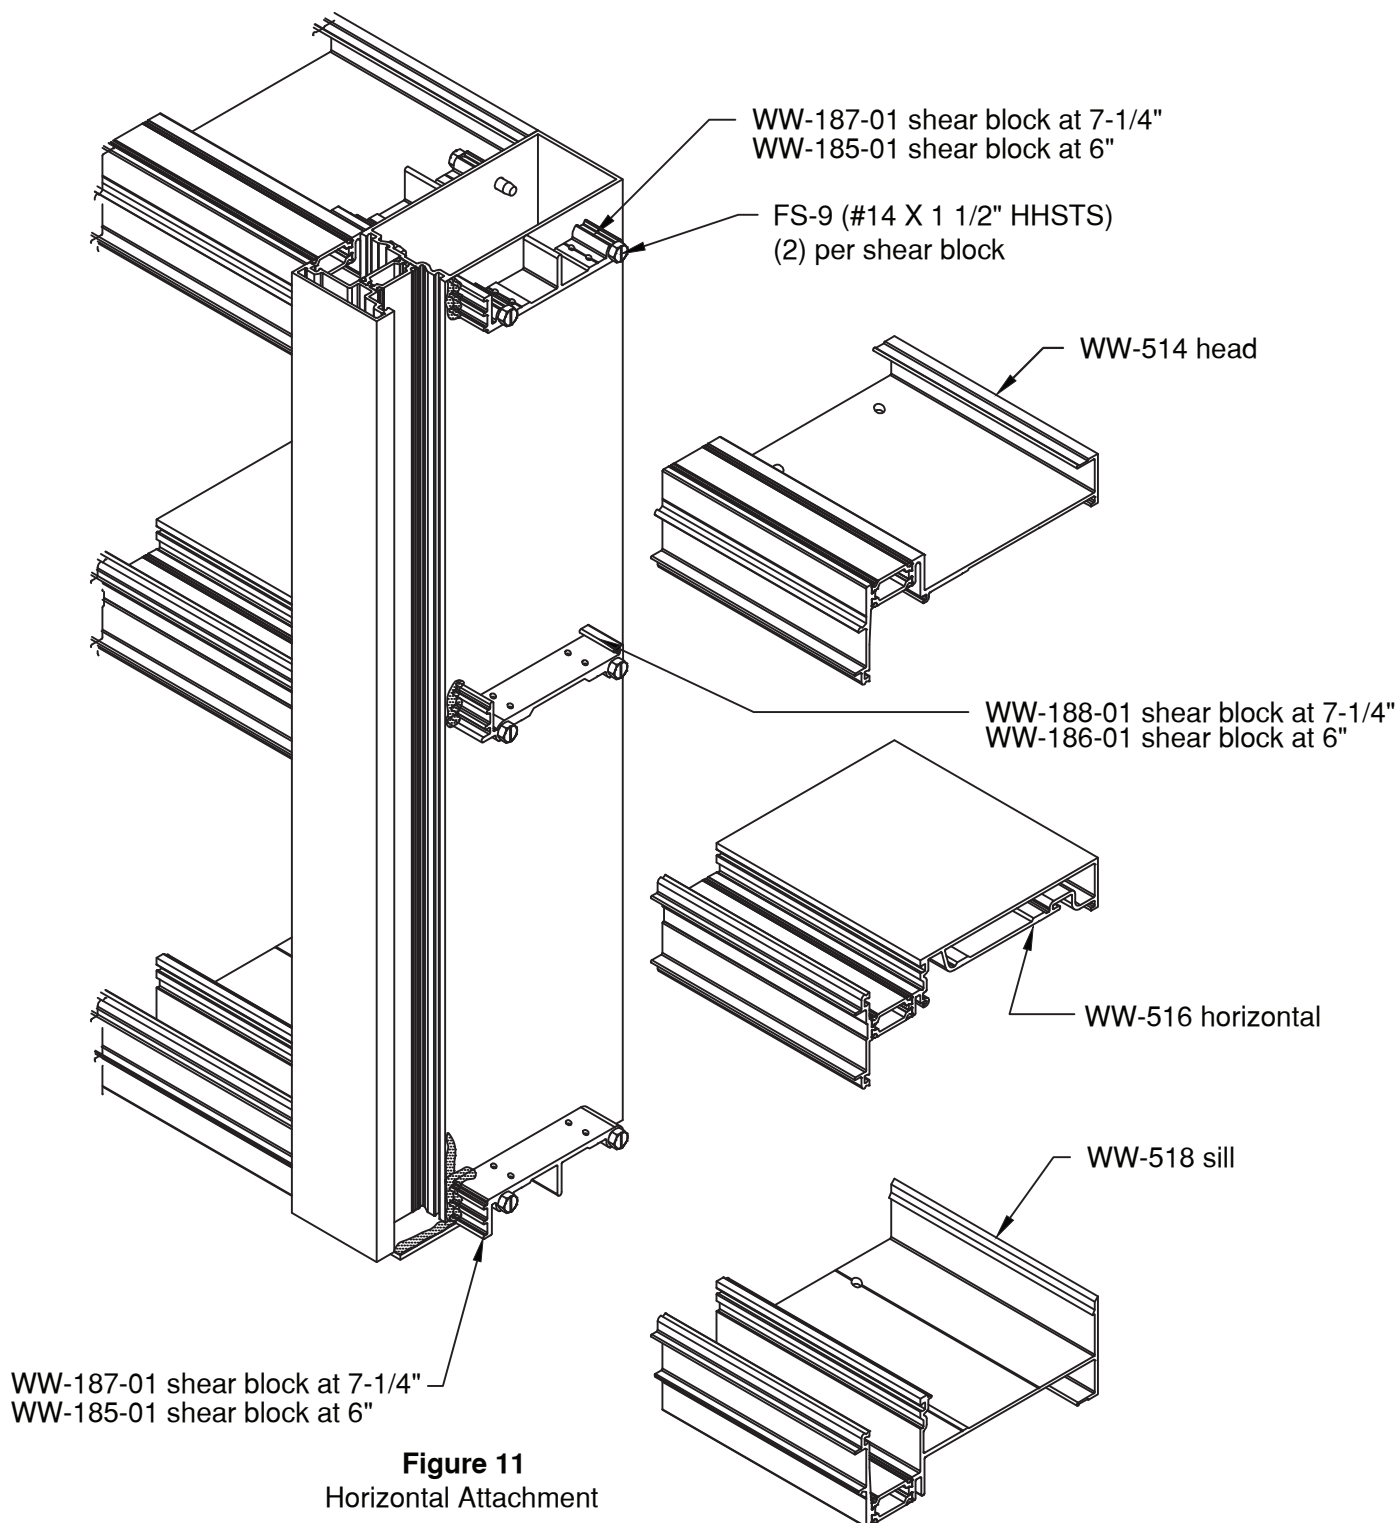
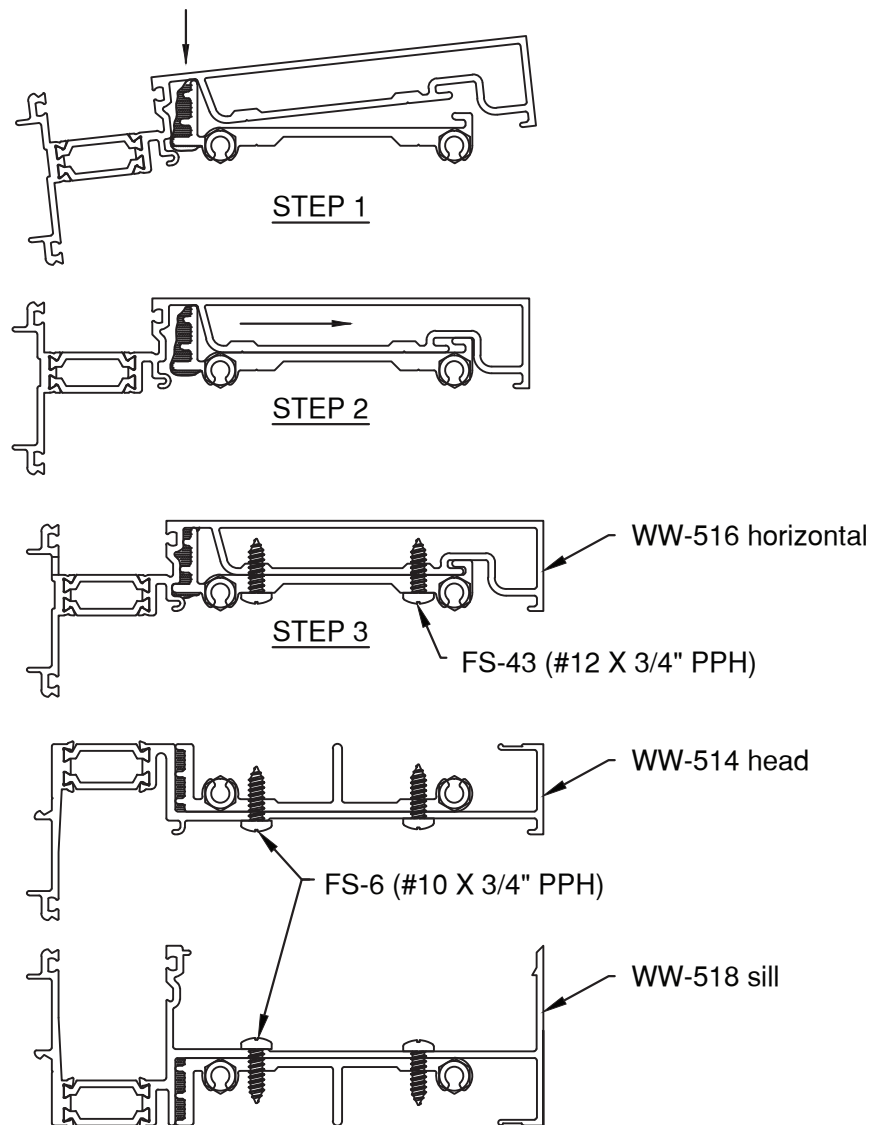

**Figure 9**
Figure 12
- 2.2 Seal around shear blocks prior to installing each horizontal mullion. **SEE FIGURE 9 & 10.** Install horizontal mullions as shown in **FIGURE 12, page 13**. An alternate horizontal is available to allow exterior glazing of system. **SEE FIGURE 13, page 13** When installing alternate horizontal, attach pressure plate using FS-322 (#12 x 1" HWH Drill Flex) @ 9" o.c. and torque to 60 in/lbs. Secure horizontals to shear block with two (2) FS-43 (#12 x 3/4" pph) at each end of horizontal and to head and sill using (2) FS-55 (#10 x 3/4" pph).
**SEE FIGURE 12**, Avoid a buildup of sealant on the gasket surfaces or in the gasket reglets.